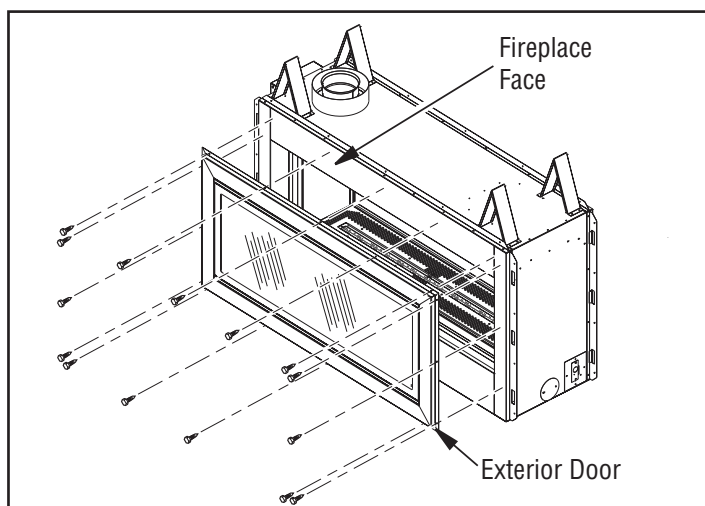

Figure 45 - Installing Exterior Door for See-Thru In/Out Application
2. Using self tapping screws (provided) secure exterior door to the face of the fireplace by drilling through holes on door into the fireplace face (Figure 45). You may chose to drill pilot holes into the face using a 1/8" drill bit. Do not use self tapping screws, use any #10 x 1/2" screw.